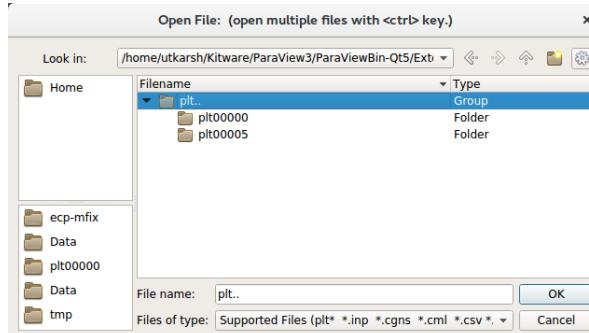

Fig. 16.2: : File dialog in ParaView showing a group of plotfile directories selected
2. Navigate to your run directory, and select the fluid or particle plotfile. Note that you can either open single/multiple plotfile(s) at once by selecting them one by one or select an ensemble of file, labelled as plt.. and indicated as a Group in the “Type” column of the file explorer (see Fig. 16.2). In the later case, Paraview will load the plotfiles as a time series. ParaView will ask you about the file type – choose “AMReX/BoxLib Grid Reader” or “AMReX/BoxLib Particles Reader”.
1. Run ParaView v5.7, and select then “File” → “Open”. You will see a combined “plt.” group. Click on “+” to expand the group, if you want inspect the files in the group. You can select an individual plotfile directory or select a group of directories to read them a time series, as shown in Fig. 16.2, and click OK.